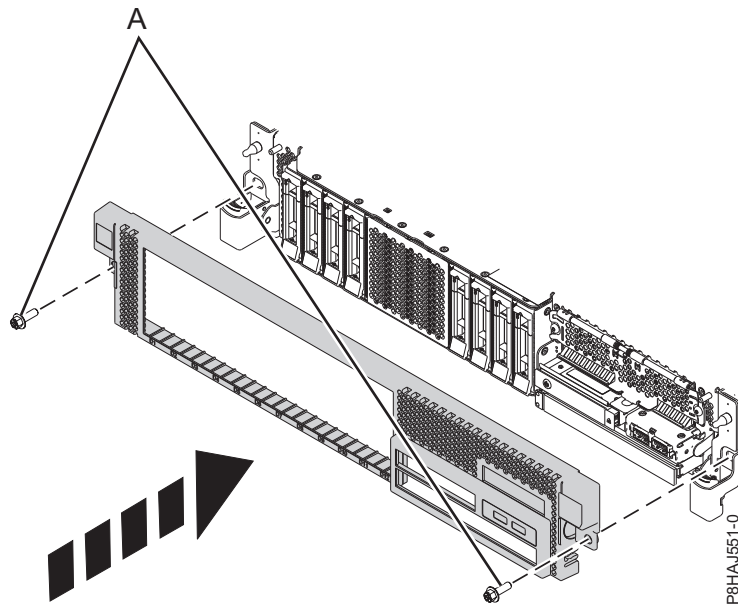

Figure 12. Installing the front cover
3. Close the release latches by pushing in the direction shown in Figure 12 on page 31. The cover snaps into place and has an indentation where you can hold onto it more easily.
4. Replace the shipping screws (A).